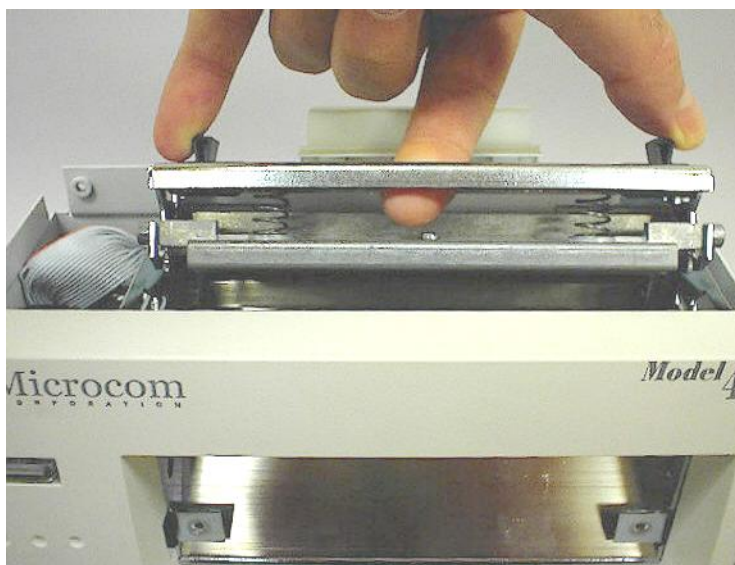

Figure 17 Unlatching of Print head
5. Using the two *Head Release Levers* (See Figure 17), unlatch and raise the print head.
5. Using the two *Head Release Levers* (Figure 17), unlatch and raise the print head.